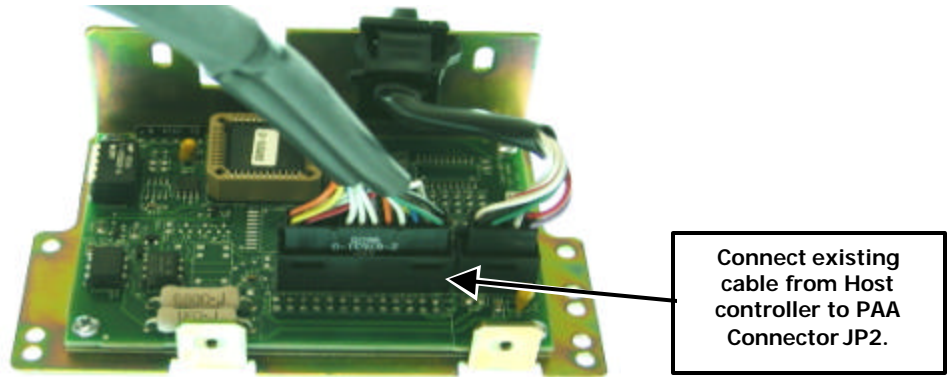

Figure 4. Protocol Adapter Assembly – Installation of 24-Pin Interface Cable
5. Connect 24-pin interface cable (removed in **Step 2**) from Host controller to 24-pin Connector JP2 in PAA (**Figure 4**). For PAA Connector JP2 pin assignments, refer to **Table 1**.